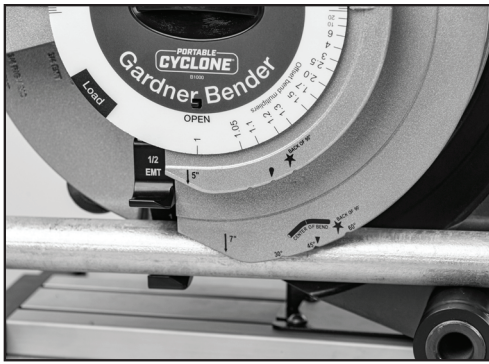

Figure 6. Conduit in the Starting Position
7. Insert the conduit in the shoe groove marked with the number matching the size conduit being bent. The end of the conduit must extend a minimum of 2" beyond the hook. Once the conduit is inserted into the hook, continue to rotate the shoe until the conduit is locked into place against the roller. Readjust the angle of the bender if necessary. **See Figure 6**